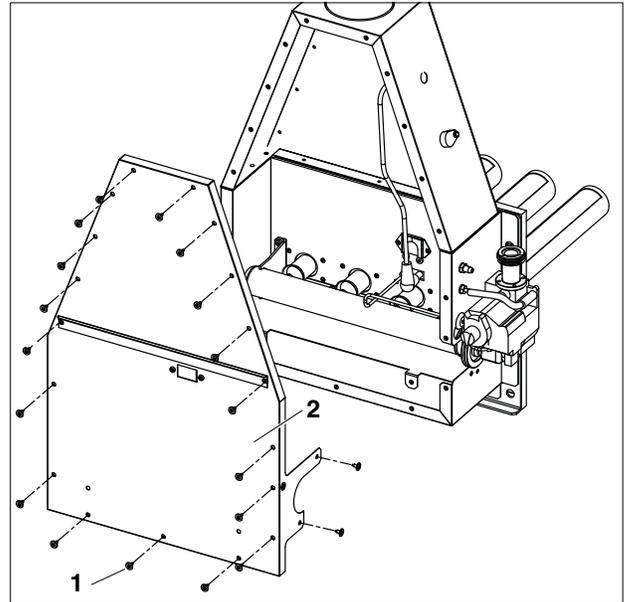

Fig. 5 Gas burner
13. Remove the burner tray cover plate screws (Fig. 5, **Item. 1**) from the burner tray cover plate (Fig. 5, **Item. 2**) and remove this cover plate (Fig. 5, **Item. 2**).